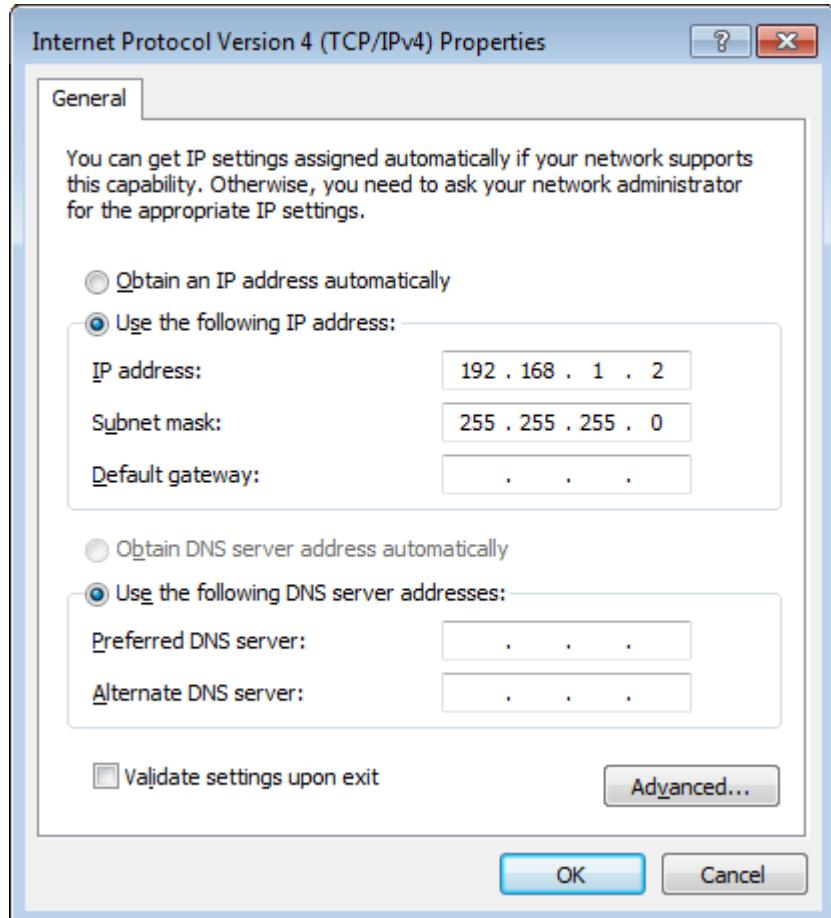

Figure 2.17: Static IP configuration of PC
1. Use one of the network cards and set it to static IP in TCP/IPv4 using the IP address **192.168.1.n**, where $n=[2..9]$ and the mask **255.255.255.0**, see Figure 2.17 (go to Control Panel → Internet Options → Network and Internet → Network and Sharing Center → Local Area Connection → Properties).